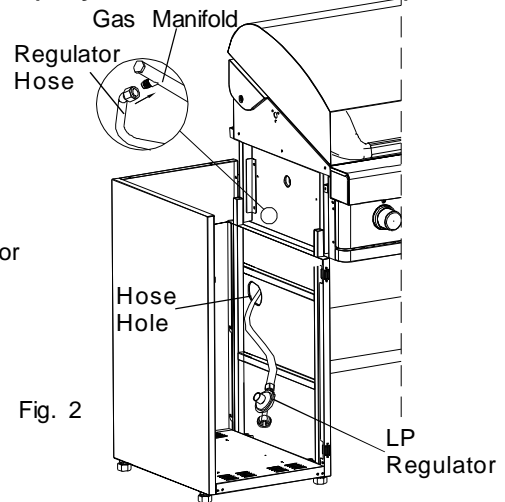

Fig. 2
- Secure the Left Rear Panel to left cabinet use 1 Pan Head Screw 3/16"x3/8". (see Fig. 2)
- ❑ **Install Transformer:** Install Transformer onto the Transformer Bracket by putting the four pre-assembled screws on the Transformer into the four holes on the Transformer Bracket. Press the Transformer downward until the screws rest in place. (see Fig. 2)
- Connect the LP Regulator Hose to the Gas manifold. (see Fig. 2)
- Install 2 Lower Door Brackets onto left and right cabinet using 4 Countersunk Flat Head Screws 3/16"x 3/8" and tighten securely. (see Fig. 2)
- Install the new Rear Lower Bowl Panel onto the back of the Grill Bowl using the same screws and tighten securely. (see Fig.2) (do not reinstall the Rear Trim panel)